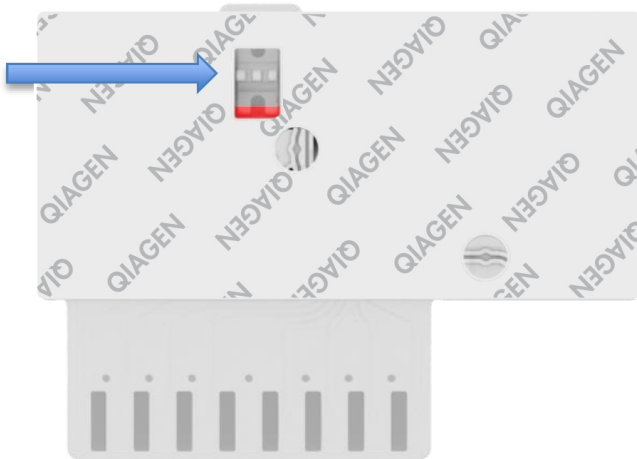

Figure 23. Sample inspection window (blue arrow).
8. Visually confirm that the sample has been loaded by checking the sample inspection window of the QIAstat-Dx Respiratory 2019-nCoV Panel Cartridge (Figure 23).